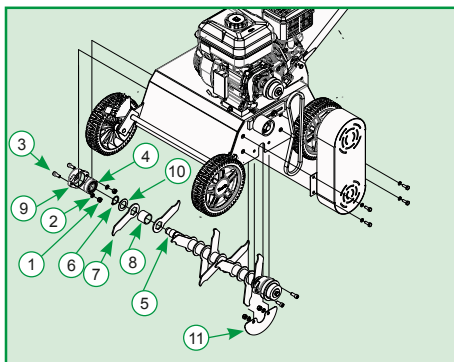

Figure 3
- ✓ Then, remove the nuts (1) and spring washer (2) from screw (3) fixing the bearing (9) on the machine base. Using a puller remove the bearing (4) from spindle (5). After removing the bearing remove the retaining ring (6), washer (10) blade (7) and the padding (8), as well as other bushing and blades as shown in Figure 3.